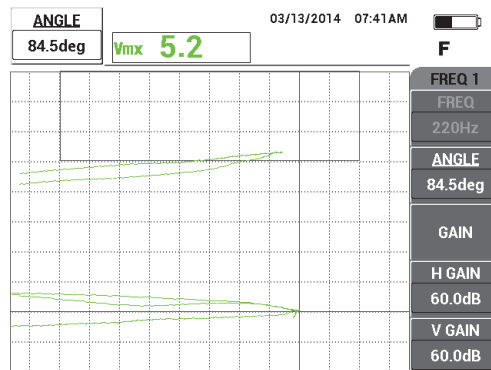

Figure 5-25 The lower lift-off signal as close as possible to horizontal
- Press the ANGLE key () , and then use the knob to adjust the lower lift-off signal so that it is as close to horizontal as possible (see Figure 5-25 on page 144).